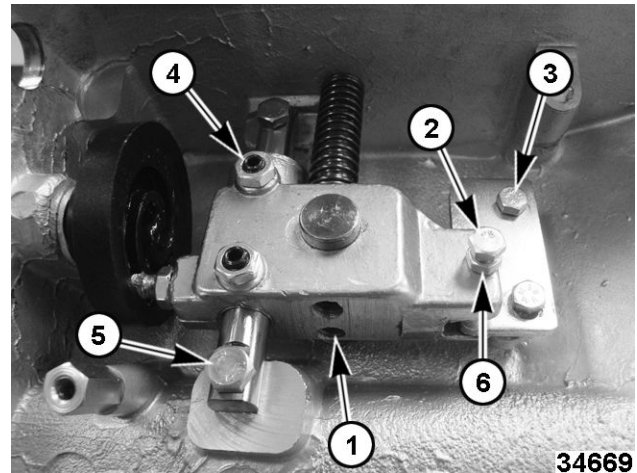

Fig. 29
6. Loosen the two gauge plate support pin set screws (1, Fig. 29).
8. Loosen the anti-rotation locknut and screw (2, Fig. 29).
9. Remove the anti-rotation plate screws (3, Fig. 29) and the anti-rotation plate.
10. Loosen the index support lock nuts and set screws (4, Fig. 29).
11. Remove the index support pin by removing the two screws (5, Fig. 29).